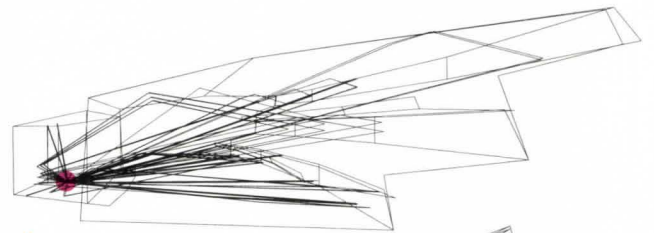

Figure 8
*From the listener's perspective, sound from these images will arrive at the ears at about the same time, but will be separated from the arrival of direct sound. In a fan-shaped room, this phenomenon is perceived as an echo from the rear wall. Raytraces, generated here for an existing auditorium (Figures 8 and 9), are associated with an echo observed on the stage and show how the side walls work in conjunction with the long rear wall surface to "focus" the echo on stage.*